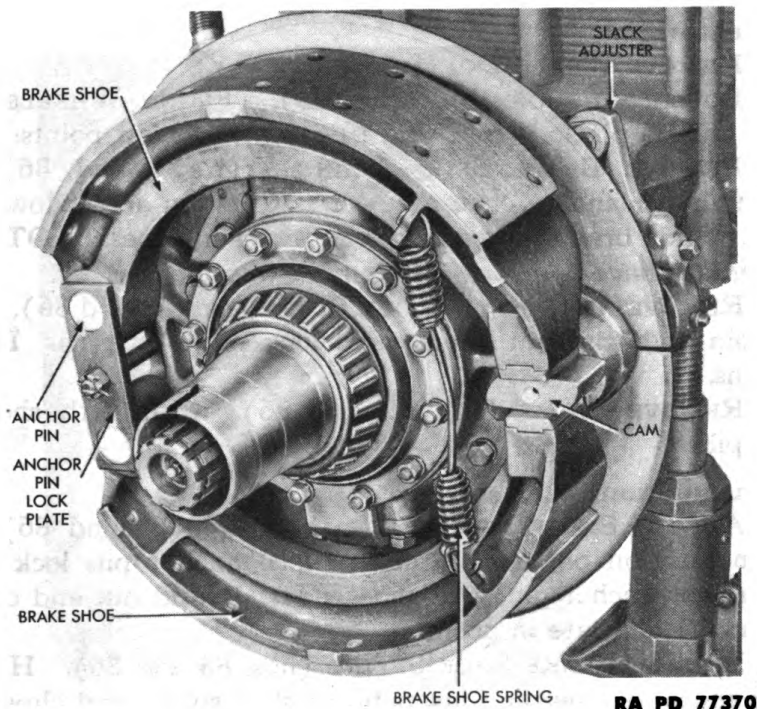

Figure 85 – Front Brake Shoes Installed
(1) **DESCRIPTION** (figs. 85 and 86). Two brake shoes are installed on a backing plate within each of the four brake drums. Adjoining ends of the two shoes are held in place by anchor pins. The other ends of the two shoes are pulled together by a brake shoe spring. A cam is located between these ends of the shoe. When the brakes are applied, the cam pivots and pushes the ends of the shoes apart. This causes the lining, riveted to the shoes, to be pressed against the brake drum, thus causing a braking action. When the brakes are released, the cam pivots back to its original position and the brake shoe spring draws the brake shoes toward each other. Thus the lining loses contact with the drum, and the braking action stops. Slight differences exist between the design of front and rear wheel brakes. Because of space limitations on the front wheels, a shorter lift is provided on the operating cams. The front shoes are also mounted on eccentric pins which can be rotated to bring the shoes closer to the drum at anchor pin end. On the front brakes the operating cam is in front of the axle, while on the rear brakes the cam is to the rear of the axle.
- (1) REMOVE WHEEL AND HUB (par. 135 c).
- (2) LOWER ANCHOR PINS (fig. 85). (FRONT WHEELS ONLY). Loosen anchor pin lock nuts and turn pin to lowest points.
- (3) REMOVE BRAKE SHOE SPRING (figs. 85 and 86). Turn camshaft by means of slack adjuster until shoes are at lowest point on cam. Slide brake shoe spring from holes in shoes. NOTE: *Rear wheel brakes have two springs. Remove in same manner.*
- (4) REMOVE ANCHOR PIN LOCK PLATE (figs. 85 and 86). Remove cotter pin and stud nut which hold lock plate on pins. Lift plate from pins.
- (5) REMOVE SHOES (figs. 85 and 86). Pull both shoes from anchor pins.
- (1) ATTACH SHOES TO ANCHOR PINS (figs. 85 and 86). Place shoes in position on anchor pins. Place anchor pin lock plate in position over anchor pins and shoes. Install stud nut and cotter pin which hold lock plate in position.
- (2) INSTALL BRAKE SHOE SPRING (figs. 85 and 86). Hold loose ends of shoes together and insert brake shoe spring and clips through holes provided for the purpose in brake shoes. On rear wheel brake, install second brake shoe springs.
- (3) INSTALL HUB AND WHEEL (par. 135 d).
- (4) ADJUST BRAKES (par. 127 b).